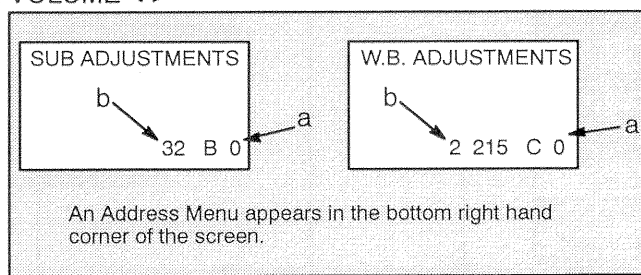

Figure 12. Serviceman Mode Menu Adjustments
Note: Only the applicable settings for the Receiver serviced will be available (see a in Figure 12).
1. **Press Channel Up/Down** on the Remote Control to select one of the 8 available Service Adjustments (a in Figure 12).
Important Note: Write down the original value set (b in Figure 12) for each address before modifying anything. It is easy to erroneously adjust the wrong item.
2. **Press Volume Up/Down** on the Remote Control to adjust the level of the selected Service Adjustment (b in Figure 12).
1. Press **Channel Up/Down** on the Remote Control to select one of the 12 available Service Adjustments (a in Figure 12).
Important Note: Write down the original value set (b in Figure 12) for each address adjustment before modifying anything. It is easy to erroneously adjust the wrong item.
2. Press **Volume Up/Down** on the Remote Control to adjust the level of the selected Service Adjustment (b in Figure 12).
1. Press **Channel Up/Down** on the Remote Control to select one of the 16 available Options Adjustments (a in Figure 12).
1. Press **Channel Up/Down** on the Remote Control to select one of the 5 available MTS Adjustments (a in Figure 12).
***Important Note:** Write down the original value set (b in Figure 12) for each address before modifying anything. It is easy to erroneously adjust the wrong item.*